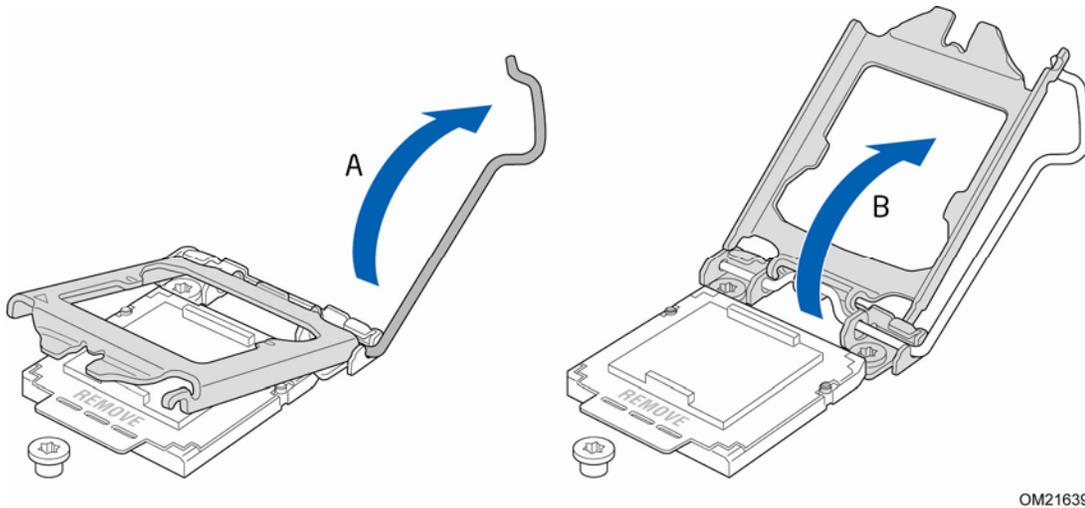

Figure 11. Lift the Load Plate
3. Rotate the socket lever to lift the load plate away from the socket (Figure 11, A). Make sure that the load plate is in the fully open position (Figure 11, B) while being careful not to damage adjacent components.